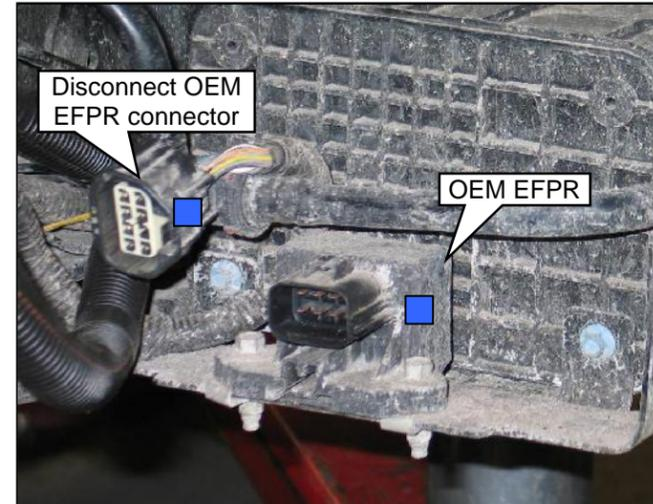
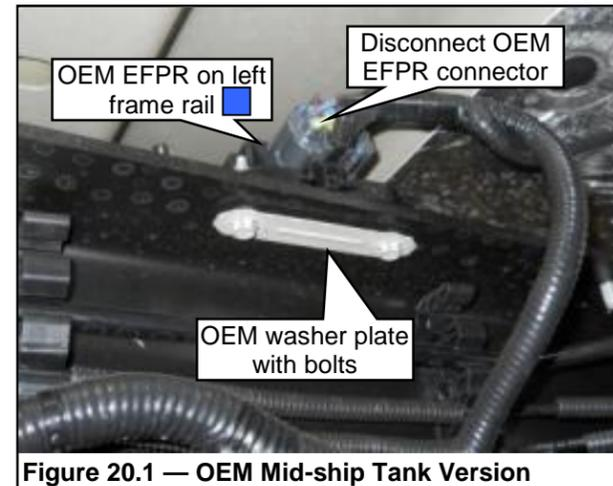
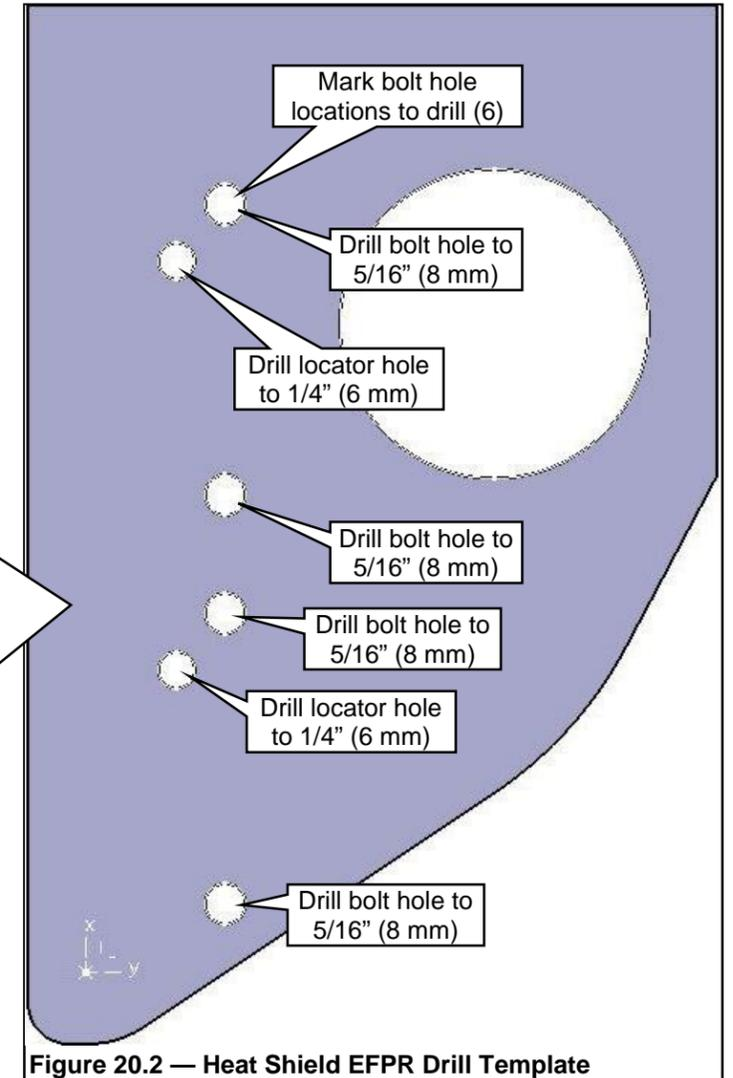

Figure 19.1 — OEM Aft-axle Tank Version
Figure 20.1 — OEM Mid-ship Tank Version
Figure 20.2 — Heat Shield EFPR Drill Template
4. Route the end of the rear frame harness (extension) between the vapor canister bracket and left frame rail and under the crossmember. The rear frame harness connections for the OEM EFPR and the new EFPR are made after the EFPR installation. **Figure 18.8.** Also refer to pages 19 and 20 for EFPR installation. **Figures 19.1–19.4 and Figures 20.1–20.4.**
7. Disconnect the electrical connector from the OEM EFPR. **Figure 19.1.**
12. Disconnect the OEM electrical connector from the OEM EFPR on the left frame rail. Reuse the EFPR (and harness connector) and discard the washer plate bolts and nuts. **Figure 20.1.** The OEM EFPR is to be installed in a new location on the tank heat shield along with the new EFPR. **Note:** Some propane installation kit tank heat shields may not have the EFPR bolt and locator holes. These heat shields must be drilled in the locations shown to accommodate the installation of the two EFPRs. **Figure 20.2.**
13. If holes are not present in the heat shield, use the heat shield EFPR drill template (P13EB-01F201-B) to mark the drilling locations. Drill the six marked holes to 5/16" (8mm). **Figures 20.2 and 20.3.**